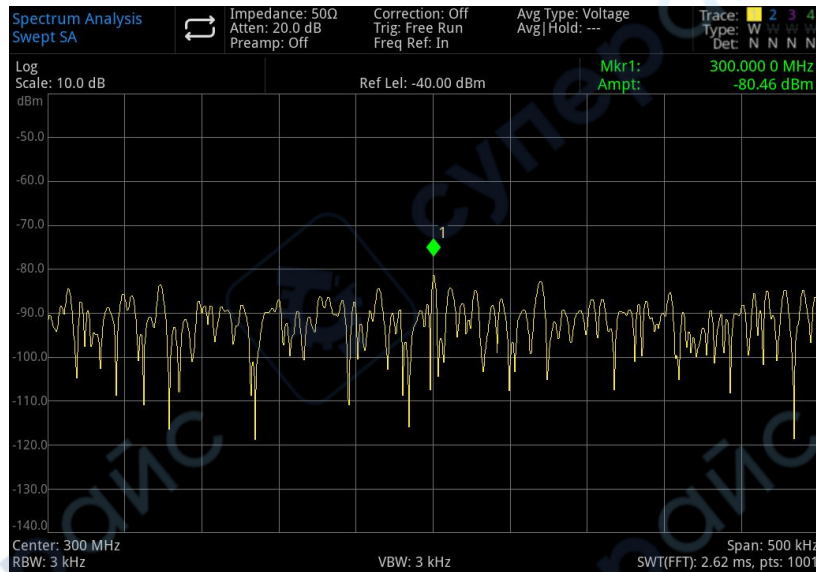

Figure 3-11 A Signal Close to Ground Noise
- Decrease the sweep span to 500kHz (as shown in Figure 3-11) ;